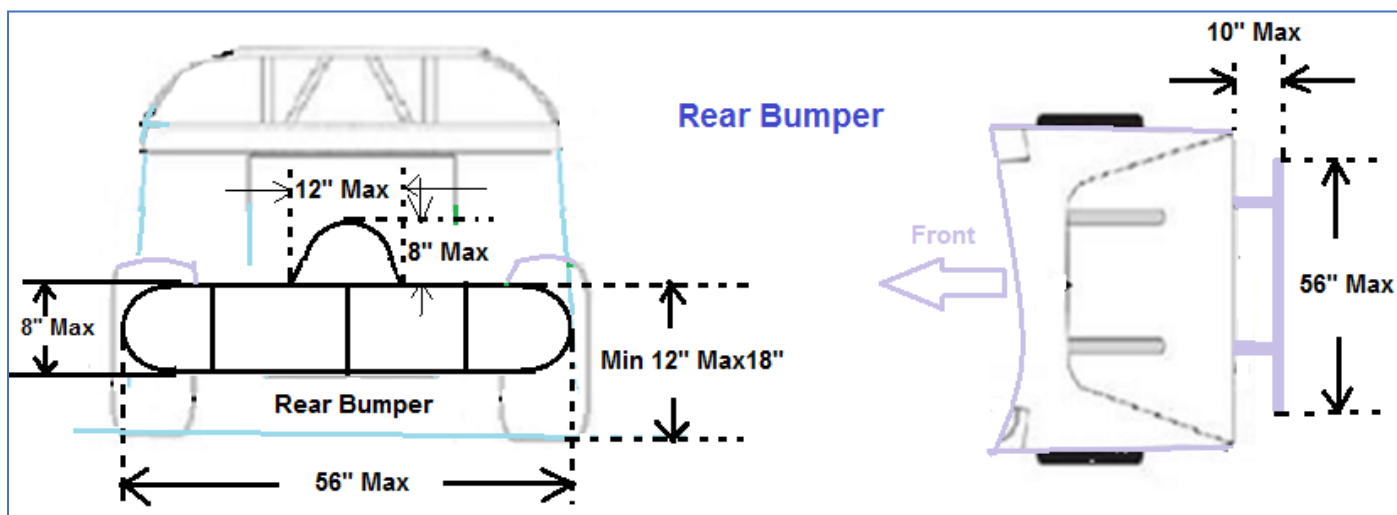

Figure 12
16.2 Rear bumper maximum width 56" with 3 vertical bars. Rear bumper max width between outermost horizontal bars is 8". Ground to top of rear bumper: 12" minimum, 18" maximum. Rear bumper must not extend more than 10" behind rear body panels (*Figure 12*).
16.3 A hoop is allowed on the top side of the rear bumper bar no wider than 12" and 8" high. Must be manufactured from the same material as the rear bar and welded in place. This is an option for push car protection only (*Figure 12*).